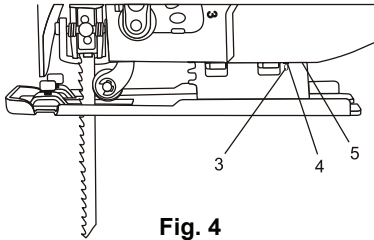

Fig. 4
2. Bevel angles (3) are marked on a scale located on the side of the base (Fig. 4).
3. Slide the base toward the rear of the jigsaw and align the bevel angle index mark (4) with the desired bevel angle on the base (5).